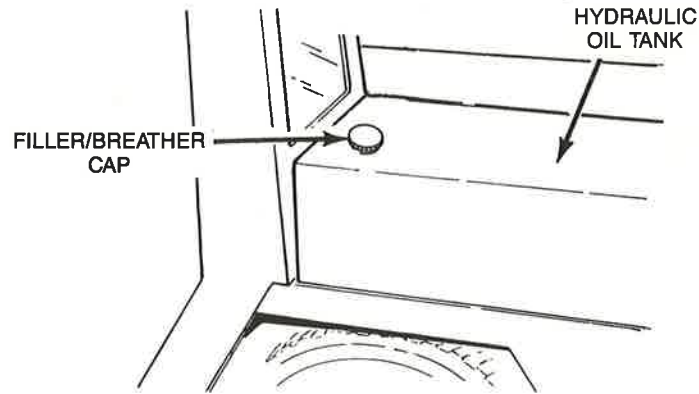

Figure 54. Breather and Filler Cap on Hydraulic Tank
16. **HYDRAULIC SYSTEM** - The hydraulic system is completely closed, except for the breather on the hydraulic tank (See Figure 54). It is very important that dirt is kept out of the system. Use care when checking or adding oil. Make sure the oil, funnel and container is clean.